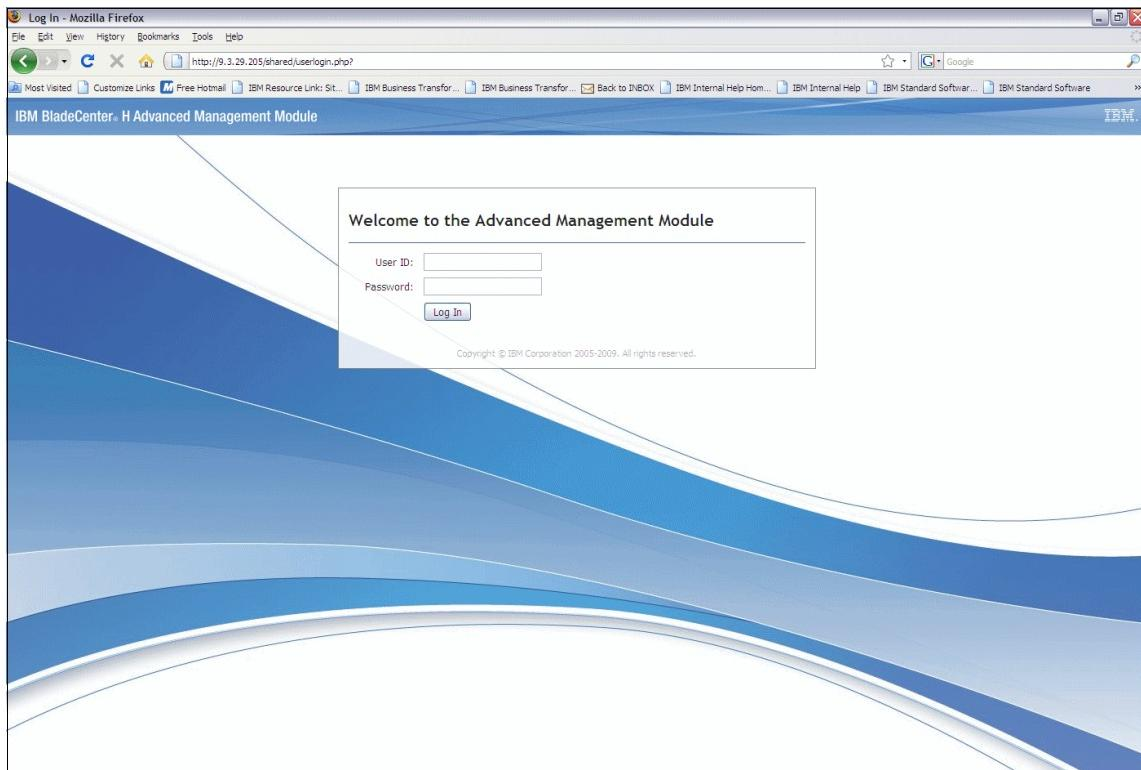

Figure A-2 AMM login panel
1. To open a remote control session, log on to the management module with your Web browser. The default IP address of the management module is 192.168.70.125/24. Enter the user name and password and click **Log In** as shown in Figure A-2 on page 497. The default account with all administrative rights is USERID with password PASSW0RD.